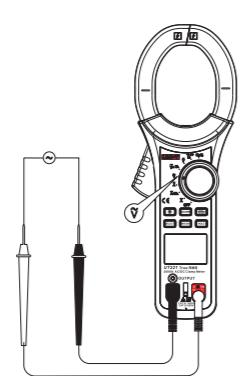

Figure 4
2. AC voltage measurement (V) (See Figure 4)**(1) Insert test leads**